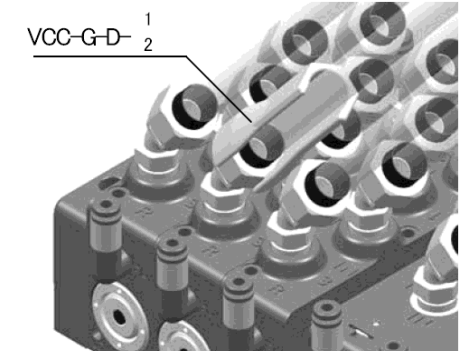

Figure 15
- When attaching piping to fitting, tighten union nut by hand, then 1.5 to 2 turns using tool VCC-G-D-1 or -2. See Figure 15